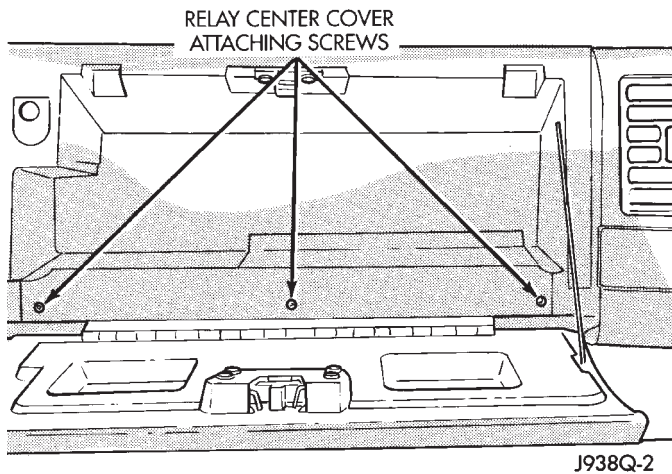

Fig. 1 Relay Center Cover
(1) Open glove box and remove 3 screws holding relay center cover (Fig. 1).